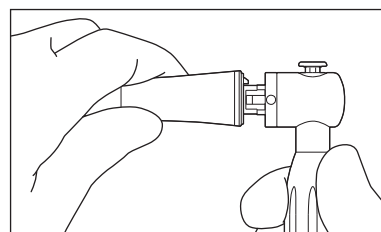

Fig. 9
- (3) Put the end of the handpiece all the way into the Insert of EZ SPRAY GRIP. (Fig. 9)